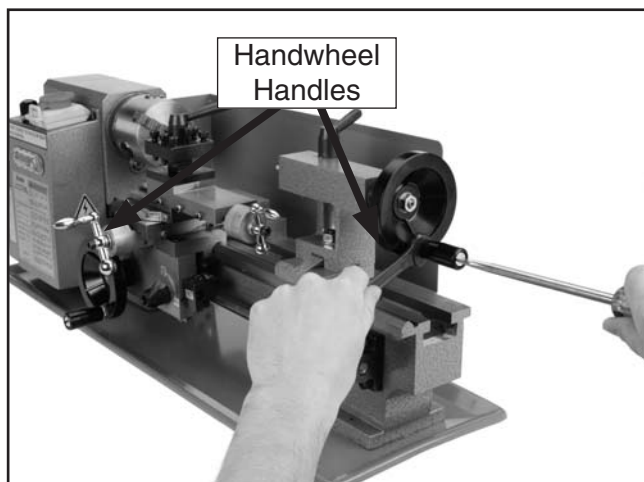

Figure 8. Installing the handwheel handles.
1. Using a screwdriver and 14mm open end wrench, thread the handwheel handles into the longitudinal and cross feed handwheels (see **Figure 8**).